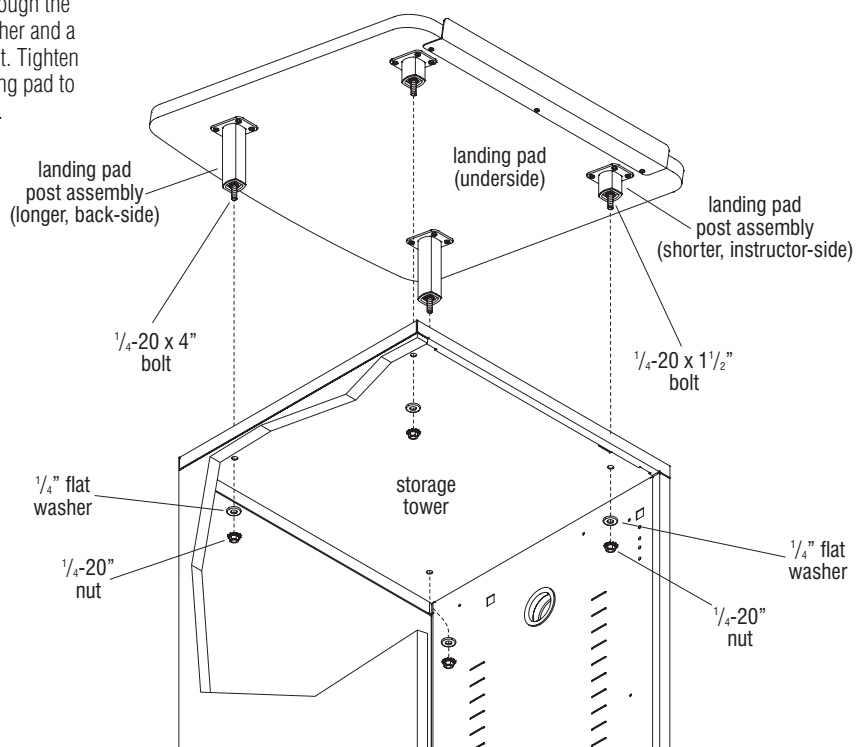

Figure 4
7. Orient the landing pad to be right-side up and with the document ledge to the user side of the storage tower as illustrated. Carefully position the landing pad post assemblies with installed bushings, posts & bolts such that the four bolts insert down through the four mounting holes in the top of the tower (Figure 4).
8. From inside the tower, locate the 1/4-20 bolts inserted through the top and place a 1/4" washer and a 1/4-20 nut onto each bolt. Tighten nuts to secure the landing pad to the tower top (Figure 4).